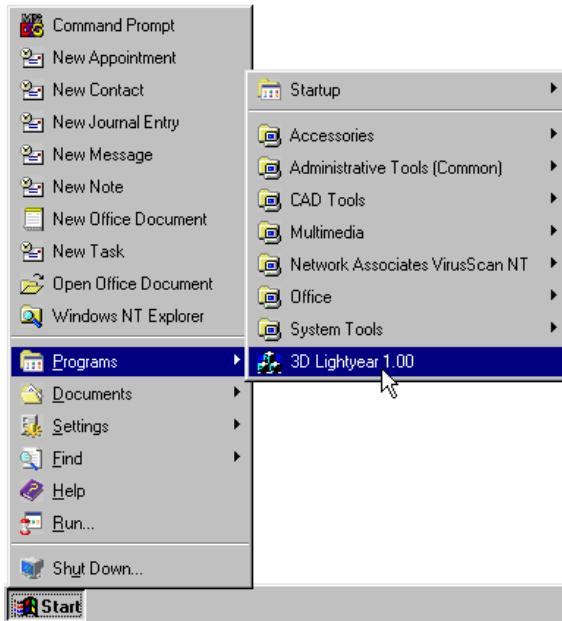

Figure 39. 3D Lightyear 1.00 Menu
1. **Launch the 3D Lightyear software program, just as you would any other Windows program, by clicking the...  icon, positioning the cursor over the "Programs" menu, then clicking the "3D Lightyear 1.00" menu item, as illustrated in Figure 39.**